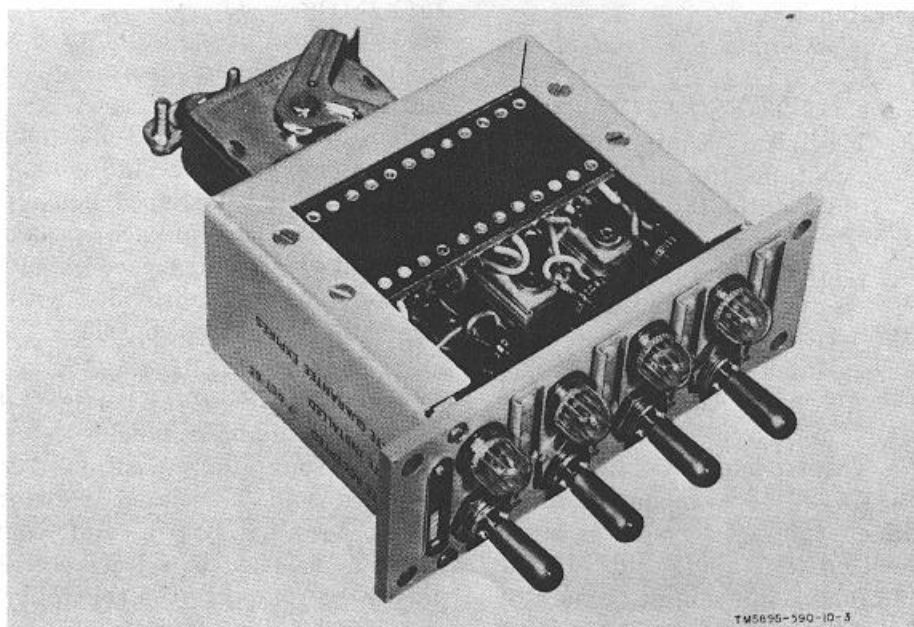

Figure 1-8. Selector, Channel-Headphone-Speaker SA-1610/FSQ-75(V).
(2) *Selector, Channel-Headphone-Speaker SA-1610/FSQ-75(V)* (fig. 1-8). The receiver mixing and channel selector is an assembly of four three-position lever-type key switches and associated resistors, indicator lamps, terminal board, and connectors. The assembly is used to select receiver audio signals to be routed to the controller's headset or speaker. The unit consists of a front panel upon which the switches and indicator lamps are mounted, and a rear bracket which mounts a terminal board and connector. Receiver mixing